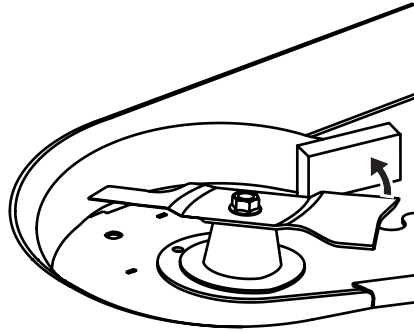

Figure 47
1. Secure the blade from turning counter-clockwise during service by placing a block of wood between the blade and the deck housing, see Figure 47, or wrap a rag around one end of the blade and grasp the blade firmly.